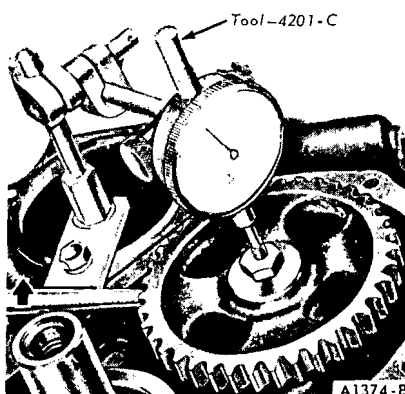

FIG. 36—Camshaft End Play
16. Push the camshaft toward the rear of the engine. Install a dial indicator so that the indicator point is on the camshaft sprocket cap screw (Fig. 36). Zero the dial indicator. Position a large screw driver be-